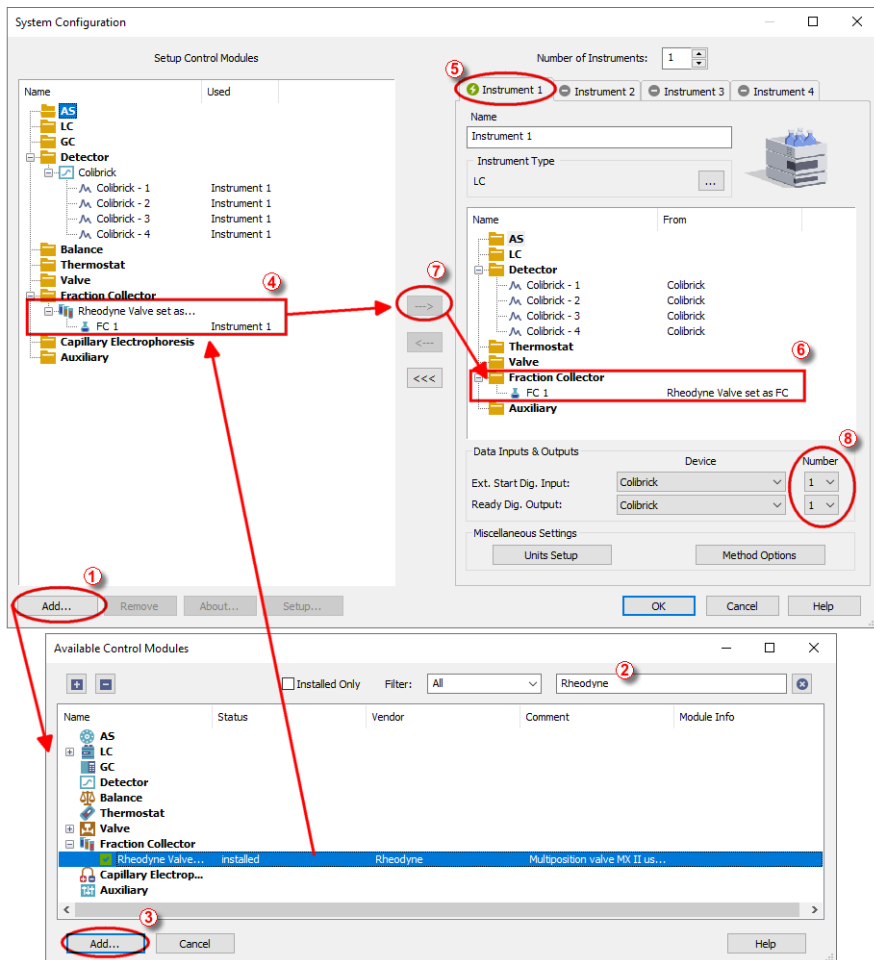

Fig 2: How to add FC by Rheodyne Valve
- Press the **Add** button (① on Fig 2 on pg 4.) to invoke the **Available Control Modules** dialog.
- You can specify the search filter (②) to simplify the finding of the driver.
- Select the correct item and press the **Add** (③ on **Fig 2** on pg 4.) button. Each device with already created UNI profile should have its own item named accordingly in the **Available Control Modules** dialog.